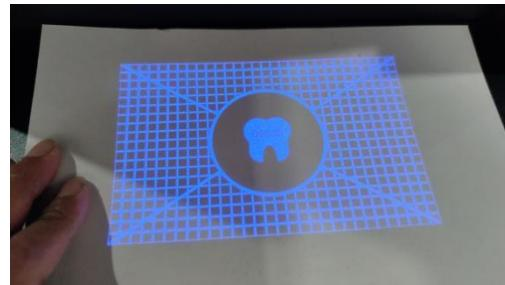

Figure 3-16
2. After clicking on the corresponding exposure pattern, the exposure process will begin, and a graphic identical to the display screen will be displayed on the exposure screen as shown in Figure 3-16. Note: If the exposure screen does not display the graphic properly, it indicates that the curing screen may be damaged. In this case, printing will not be possible. Please contact the after-sales hotline for assistance promptly.